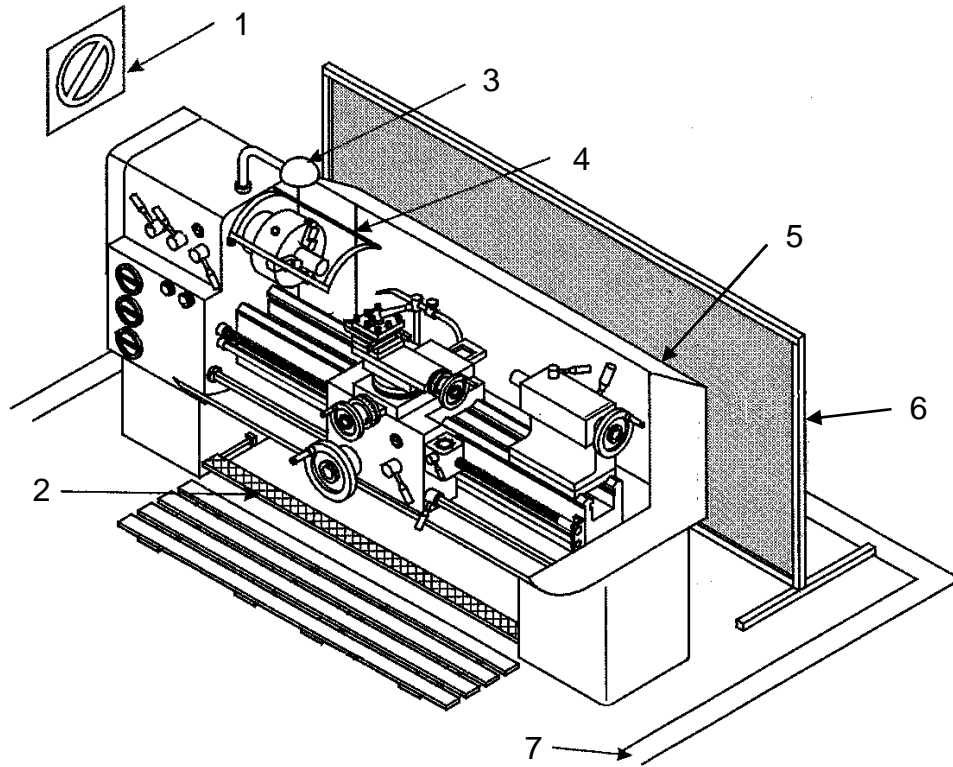

FIGURE 1
- 1.2 Carefully study the lathe shown in FIGURE 1. Identify and label each of the safety features. Write down the label number and correct answer in your examination book.